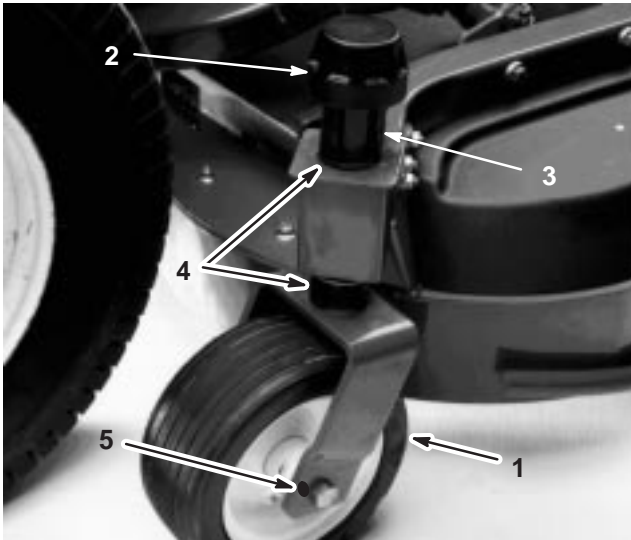

Figure 20
1. Remove the tensioning cap from the spindle shaft (Fig. 20).